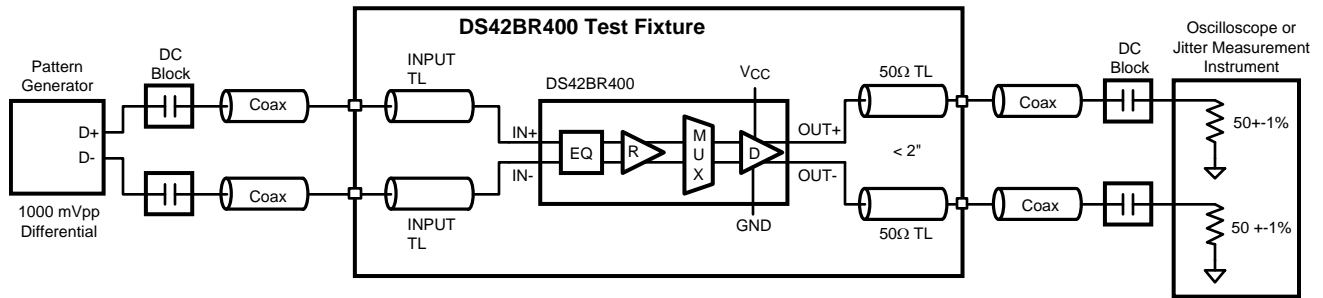

Figure 7. AC Test Circuit
The high speed inputs are self-biased to about 1.3V and are designed for AC coupling allowing the DS42BR400 to be directly inserted into the datapath without any limitation. The ideal AC coupling capacitor value is often based on the lowest frequency component embedded within the serial link. A typical AC coupling capacitor value ranges between 100 and 1000nF, some specifications with scrambled data may require a larger coupling capacitor for optimal performance. To reduce unwanted parasitics around and within the AC coupling capacitor, a body size of 0402 is recommended. Figure 7 shows the AC coupling capacitor placement in an AC test circuit.
(4) t_{SKO} is the magnitude difference in propagation delays between all data paths on one device. This is channel-to-channel skew. t_{SKPP} is the worst case difference in propagation delay across multiple devices on all channels and operating under identical conditions. For example, for two devices operating under the same conditions, t_{SKPP} is the magnitude difference between the shortest propagation delay measurement on one device to the longest propagation delay measurement on another device.
(5) Device output random jitter is a measurement of random jitter contributed by the device. It is derived by the equation $\text{SQRT}[(\text{RJ}_{\text{OUT}})^2 - (\text{RJ}_{\text{IN}})^2]$, where RJ_{OUT} is the total random jitter measured at the output of the device in ps(rms), RJ_{IN} is the random jitter of the pattern generator driving the device. Below 400 Mbps, system jitter and device jitter could not be separated. The 250 Mbps specification includes system random jitter. Please see Figure 7 for the AC test circuit.
(6) Device output deterministic jitter is a measurement of the deterministic jitter contribution from the device. It is derived by the equation (DJ_{OUT} - DJ_{IN}), where DJ_{OUT} is the total peak-to-peak deterministic jitter measured at the output of the device in ps(p-p). DJ_{IN} is the peak-to-peak deterministic jitter at the input of the test board. Please see Figure 7 for the AC test circuit.
(7) This parameter is guaranteed by design and/or characterization and is not tested in production.